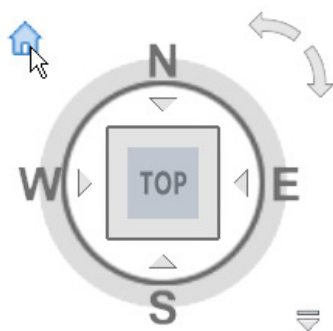

Figure Step 10A
Step 10 Click the Home icon on ViewCube. It is the small house in the upper left corner. The model will now display the home view. For this model, it is SE Isometric. (Figure Step 10A and 10B)